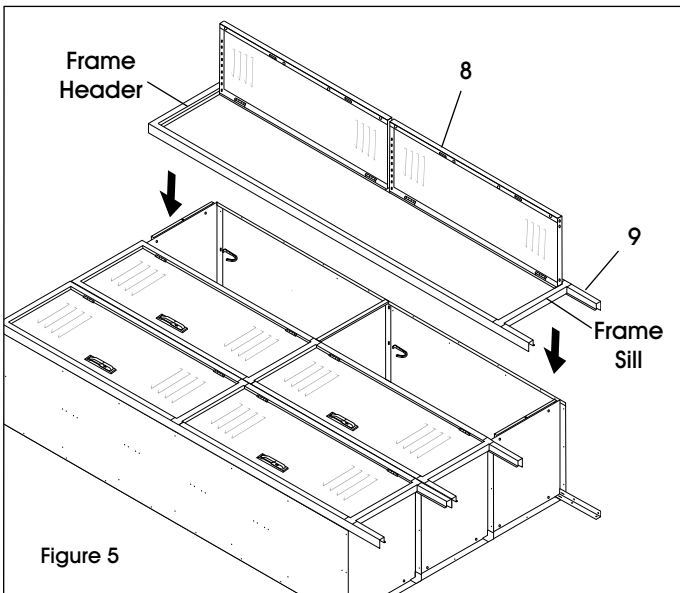

Figure 5
9. Place door and frame assembly (8 and 9) over the locker body. Make certain body sides are inside the frame and not between the frame. Attach top to frame header and bottom to frame sill (one bolt each). Finish by attaching door and frame assembly to the sides of the locker body (bolts will be shared with the door and frame on either side). (See Figure 5) If joining a 3-wide unit beside another unit skip to **JOINING UNITS TOGETHER** below.